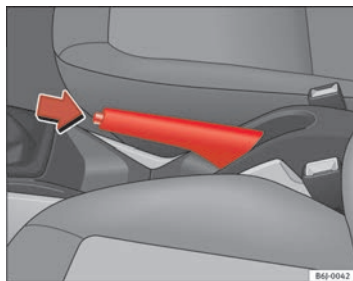

Fig. 107 Handbrake between the front seats
- Pull the handbrake lever up firmly ⇒ **fig. 107**.
- Pull the lever up slightly and press the release knob in the direction of the arrow ⇒ **fig. 107** and guide the handbrake lever down fully ⇒ .